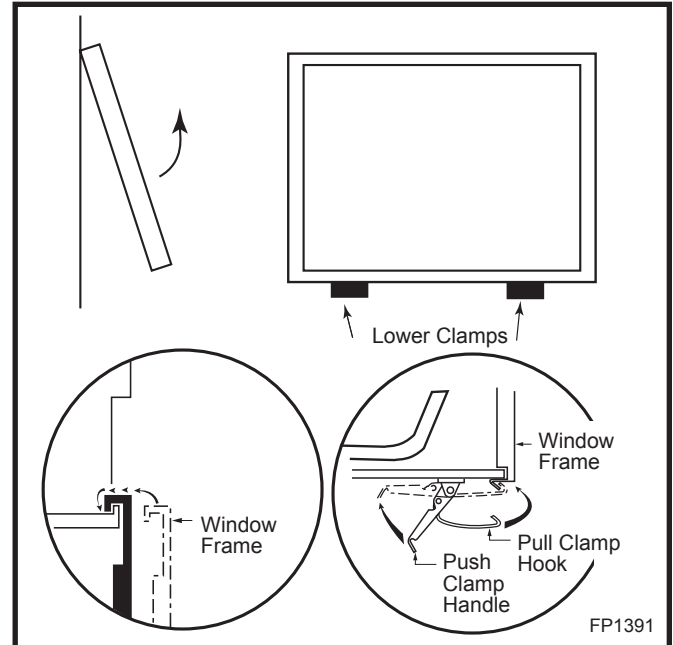

Fig. 36 Remove glass/frame assembly.
5. Release the two clamps along lower edge of the frame by pulling down on clamp handles. (Fig. 36)
6. Tilt the lower edge of frame out slightly and lift glass/frame assembly up and away from the fireplace. (Fig. 36)